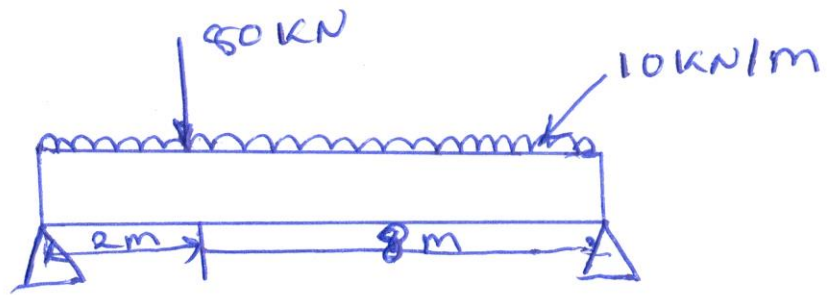

FIGURE 5
- A beam is loaded as shown in figure 5. Determine and draw the shear force diagram (10 marks)